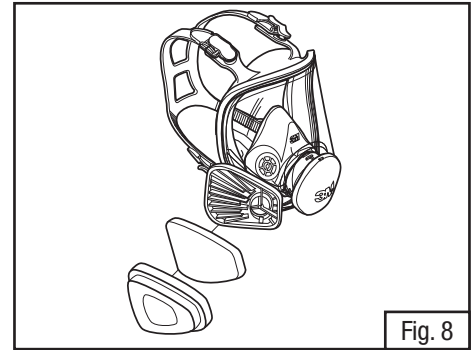

Fig. 8
3. Place filter into 501 retainer with filter printing facing towards the 603 adapter. Snap together and ensure the filter seal is free from creases or gaps (Fig. 8).